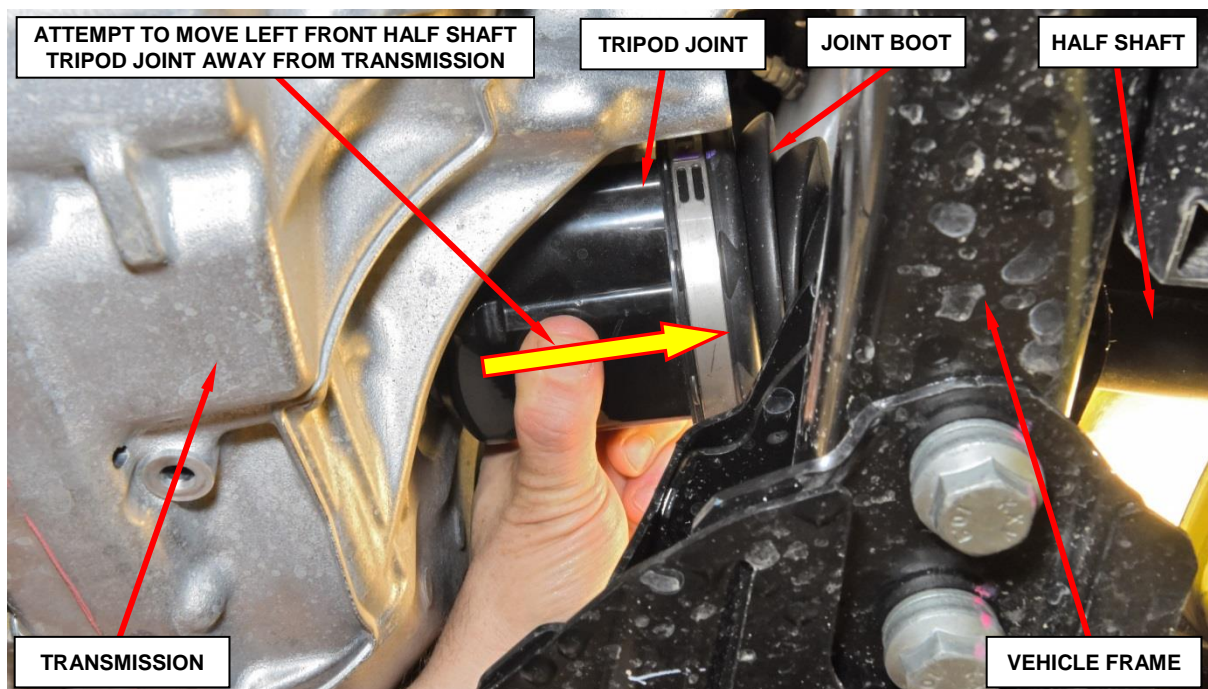

Figure 2 – Check Left Front Half Shaft Engagement Into Transmission
4. Hold the left front half shaft inboard tripod joint (transmission side) with both hands and axially pull the tripod joint toward the wheel direction (away from the transmission) to determine if the tripod joint is properly retained by the circlip in the transmission side gear. A half shaft tripod joint that is properly retained by the circlip will not move. A half shaft tripod joint that is NOT properly retained by the circlip will be easily moved while applying minimal axial force away from transmission (Figure 2).